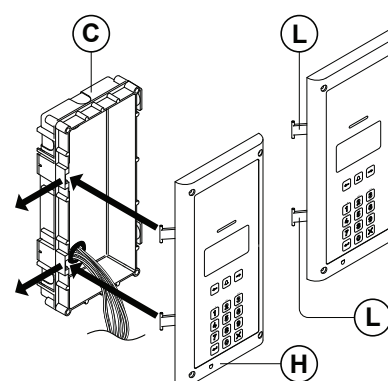
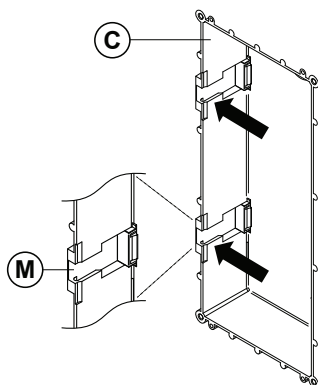

Fig. 64
Fig. 65
6. Take the frame's hinges (L) and hook the module support frame (H) to the flush box (C), starting from the left following the guide arrows, as shown in **Fig.64**. Ensure that the frame's hinges (L) (**Fig.64**) fit inside the relevant hinge mounts (M) inside the flush box (C), as shown in **Fig.65**;